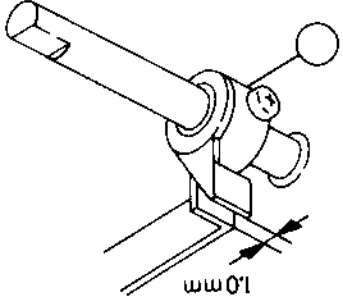

Fig. 35
2. Install ㉑ at position shown in Fig. 35, with M-O switch set to M.
3. See to it that the cords connected to ② and ③ do not touch the flywheel, gear, etc.